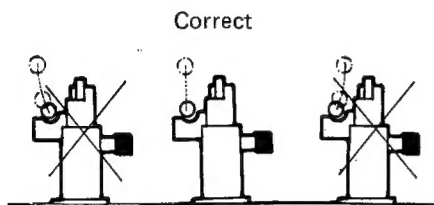

Fig. 11
- \* When returning the tonearm to the arm rest, if the arm does not set properly into the notch in the arm rest (hits either the right or left side of the arm rest during descent), perform the following adjustments. See Fig. 11 below.